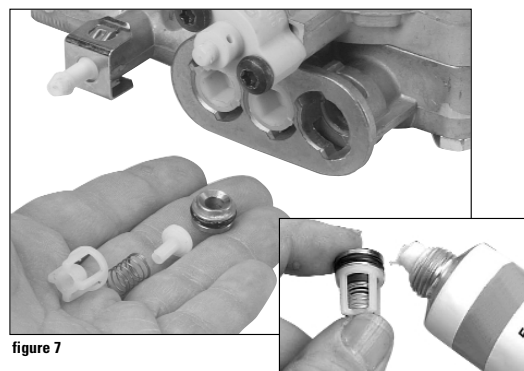

figure 7
4. Check valve for wear, debris and pitting. (figure 7)
5. Grease O-rings lightly with silicone grease and reassemble. (figure 7 inset)